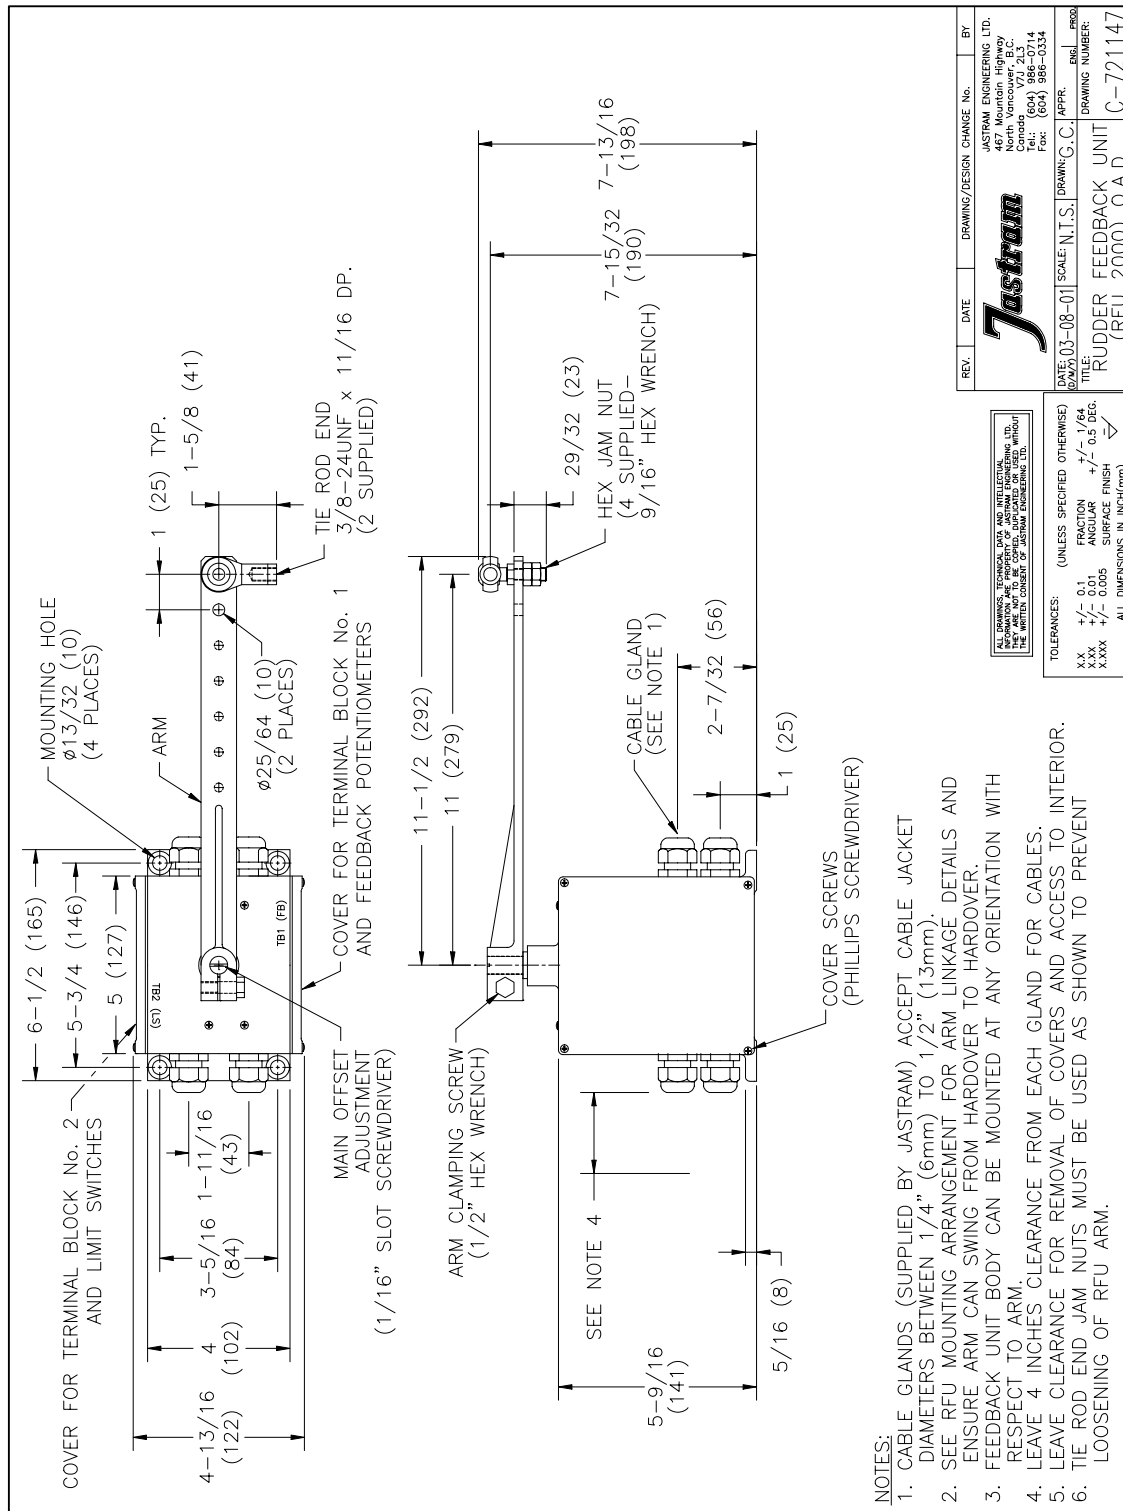

Figure 3 – RFU 2000 Overall Dimensions
- b) Refer to Figure 3 for RFU overall dimensions and mounting hole pattern. Note the clearances required.
- c) Loosen the RFU arm clamping screw (see Fig. 3).
- d) Loosen the RFU arm clamping screw (see Fig. 3).